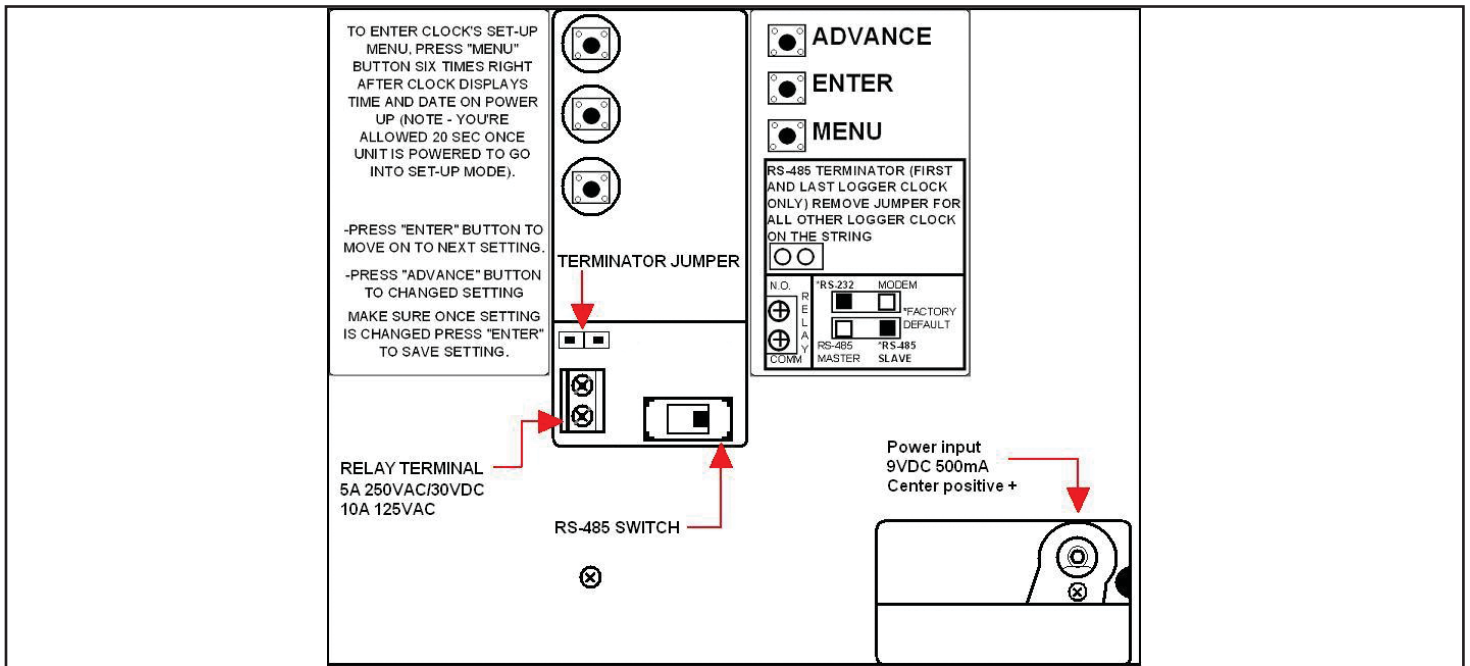

Figure 3. Back-side of SmartLog X³™ plate
A. Clock's Baud Rate, ID, Parity, Daylight Option and Port Expand (See Figure 3)
1. Plug the power supply into the unit and then to the appropriate AC source. Refer to Figure 3 to locate the power input jack. The SmartLog X^{3™} will cycle through a self diagnostic program. The time and date will appear on the screen when the diagnostics is complete. Do not continue until this step has been completed.
2. After the self diagnosis press the MENU button six times. (If you do not press the Menu button within 20 seconds the clock will exit out of the set-up menu and will need to be reset by disconnecting then reconnecting the power supply.) Refer to Figure 3 for button locations.
3. The **Relay Terminal** connections can be made on the back of the SmartLog X^{3™} (See Figure 3). They can be used to control doors, gates, etc. The relay terminal is limited to a maximum of 5A 250 VAC / 30 VDC and 10A 125 VAC.